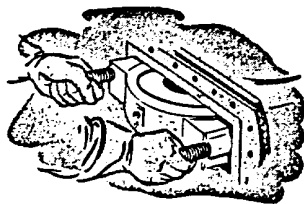

Fig. 85
- Shaffer Mechanical Control Gates incorporate many of the features built into Shaffer Hydraulic Blowout Preventers (see pages 4346 and 4347) . . . the Self-Draining Ram Compartments, the "Floating" Ram Design, the way well pressure is used to assist the sealing action, etc. By simply removing *one* end cover, the complete ram assembly can be removed for changing rams—a feature that insures maximum convenience when changing pipe sizes (See Fig. 85).
ing rams—a feature that insures maximum convenience when changing pipe sizes (See Fig. 85).